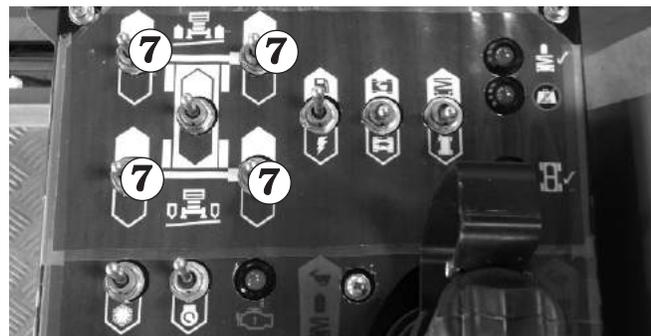

Figure 8.15
2. Push and hold the **Stabiliser** switches ⑦ forward until all the stabilisers are completely up (see Figure 8.15).